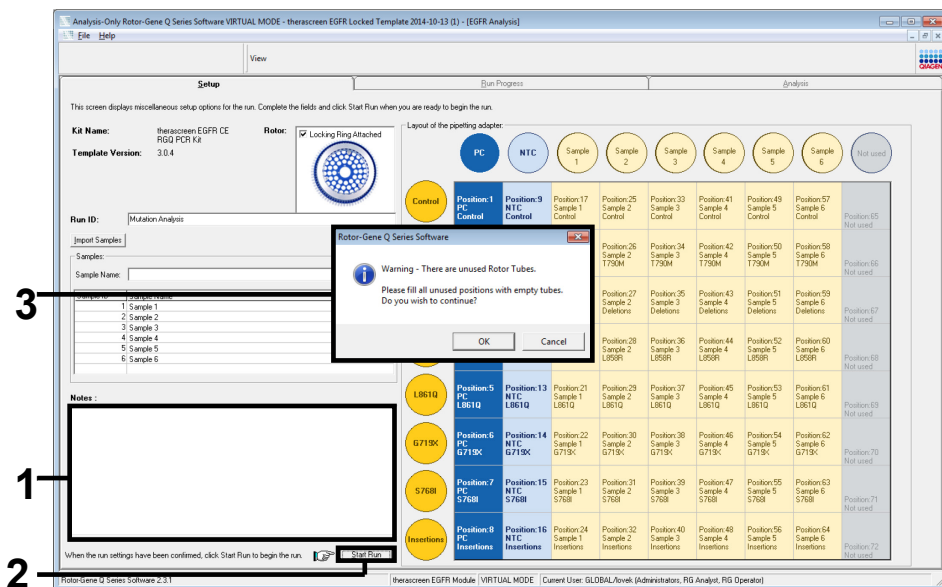

Figure 14. “Notes” dialog field (1), the “Start Run” button (2), and “Warning” of unused rotor positions (3).
16. When all sample names are entered, verify they are correct. Add any additional information in the “Notes” dialog field if necessary and then click “Start Run” (Figure 14).
**Note:** If any rotor position is unused, a “Warning” will appear (Figure 14) to remind the user that all unused positions on the rotor must be filled with capped, empty tubes. Check that all unused rotor positions are filled with capped, empty tubes and click “OK” to proceed.